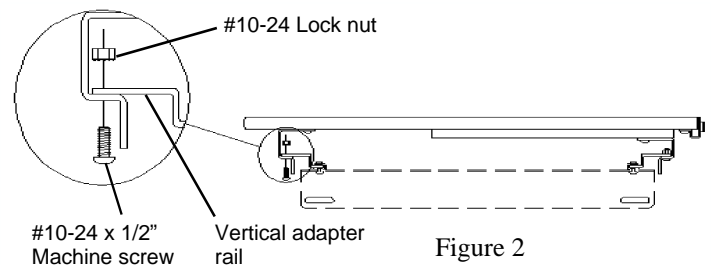

Figure 2
2. Attach the **Vertical Adapter Rails** to the Front and Rear Rails on both sides of the unit at equal heights using the #10-24 x 1/2" screws and #10-24 lock nuts provided. See **Figure 2**.